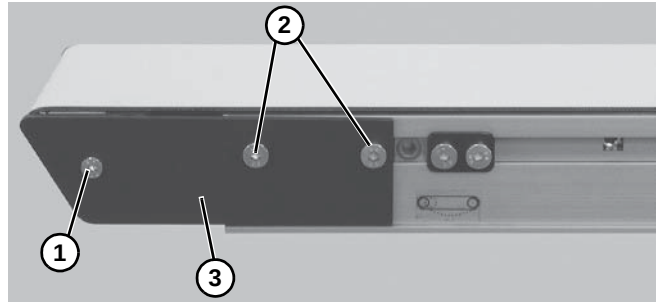

Figure 57
2. On one side of conveyor, use a 3 mm and 4 mm hex-key wrench to remove head plate fastening screws (Figure 57, item 1 & 2) and remove head plate (Figure 57, item 3).
4. After replacing bearings, re-install head plate (Figure 57, item 3). Use a 3 mm hex-key wrench to tighten one (1) fastening screw (Figure 57, item 1) to 30 in-lb (3.4 Nm). Leave two (2) fastening screws (Figure 57, item 2) loose for belt tensioning.